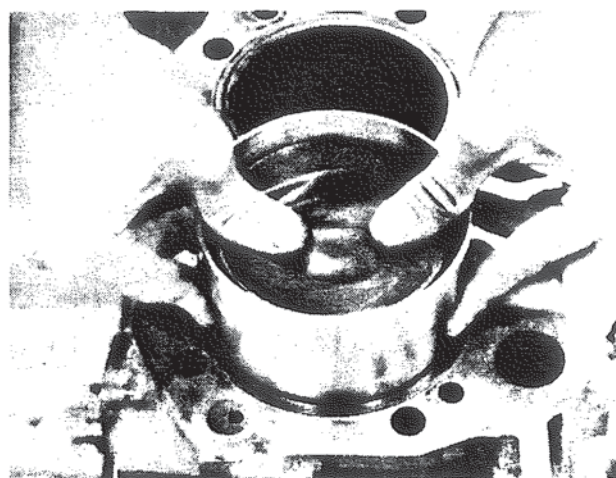

Figure 63. Installing Piston.
- E. Press piston into liner with thumbs. Figure 63.